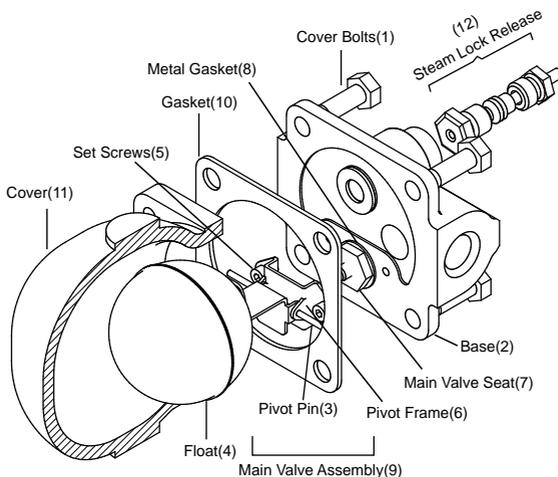

Figure8: Maintaining the main valve assembly
7.4 Maintaining/ Replacing the main valve assembly :(Refer to Figure 8)
9. Available spares: (Refer to Figure 8)